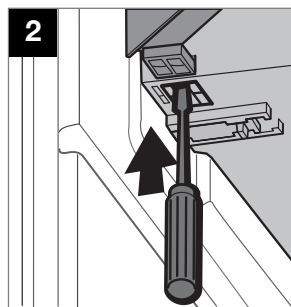

Fig. 24
- Unlock the freezer compartment door using a screwdriver (Fig. 24).